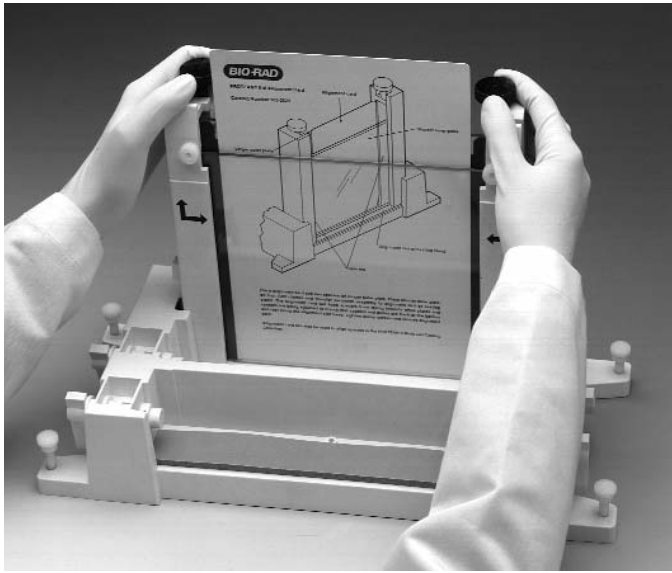

**Fig. 6.4. Attaching the clamps to the glass plate assembly.**
4. Grasp the gel sandwich firmly. Guide the left and right clamps onto the sandwich so that the long and short plates fit the appropriate notches in the clamp (Figure 6.4). Tighten the screws enough to hold the plates in place.